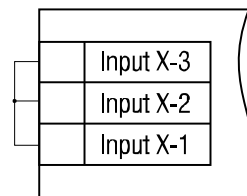

Fig. 10 Short-circuiting of a disabled input
- Disabled inputs (parameter „Sensor type“ = OFF) should be short-circuited according to Fig. 10